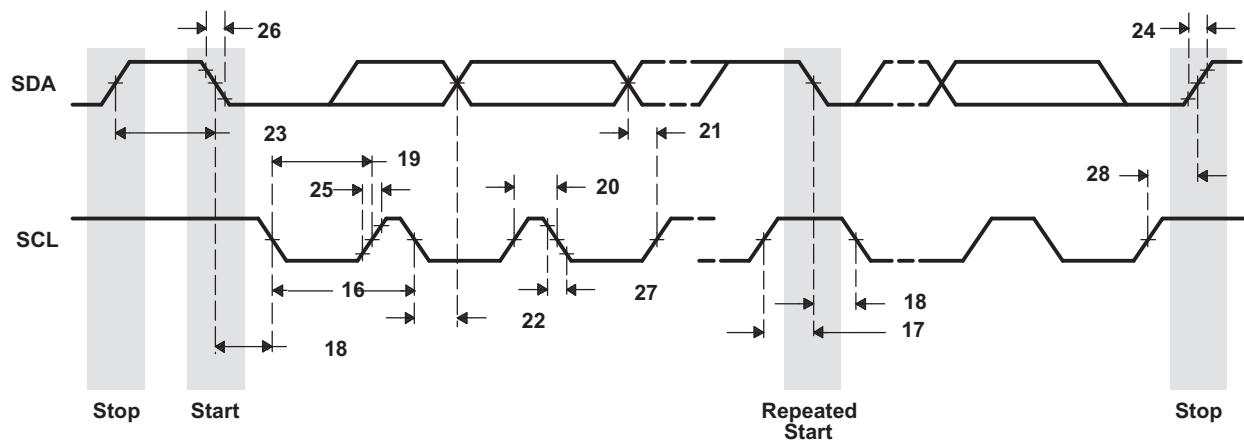

Figure 6-23. I2C Transmit Timings
**Table 6-23. Switching Characteristics for I2C Timings(1) (see Figure 6-23)**